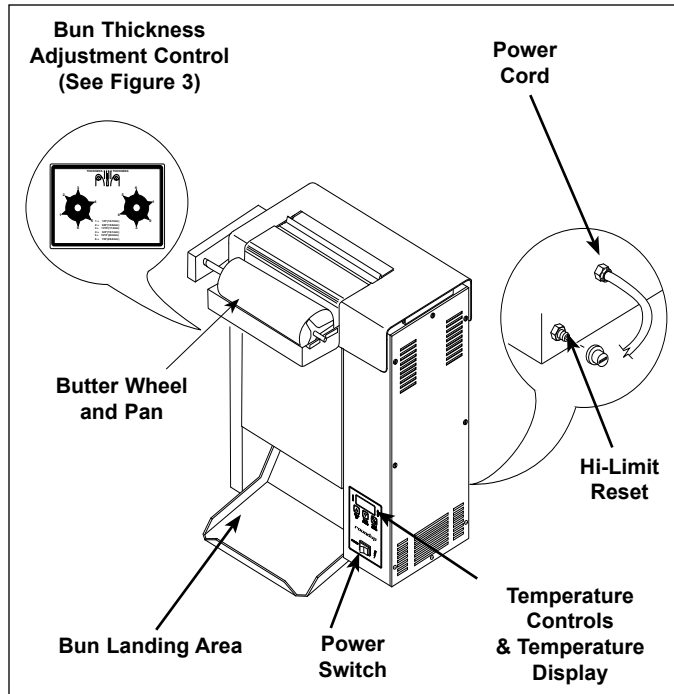

Figure 2. VCT-2000 Toaster
NOTE: The Temperature Display (Figure 2) will flash "LO" until the toaster reaches its preset operating temperature. When the toaster approaches the preset temperature of 600°F (315°C), "USE" appears in the Temperature Display and the unit is ready to toast buns. If "USE" does not appear in the window after warm-up period of approximately 30 minutes, refer to the Troubleshooting section.
3. Slide buns across the rotating Butter Wheel with the cut face down and drop buns into the Bun Feeder (Figure 2). The cut sides of heel and crown must face each other and slide against the Release Sheet.
4. Toasted buns will drop into the Bun Landing Area (Figure 2) in approximately 15 seconds.
A Hi-Limit Control turns off electrical power to the heater and control circuits if the unit overheats. To reset the control, allow 10-15 minutes for the unit to cool, then locate the Reset Button at the rear of the unit. Remove the black protective cap, press the Reset Button, and reinstall the protective cap (Figure 2).